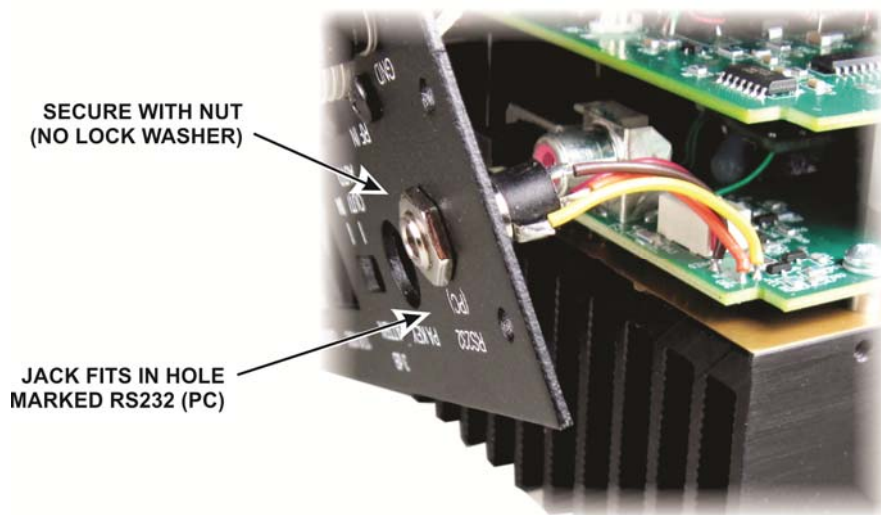

Figure 13. Mounting the RS232 Connector in the Rear Panel.
Secure the ATU module pc board to the four standoffs using the screws and lock washers you removed earlier as shown in Figure 13. Note that there is a hole near the center of the ATU module that is not used.
Pass the small jack through the hole marked RS232 (PC) on the rear panel and secure it with the hex nut your removed earlier (see Figure 13).